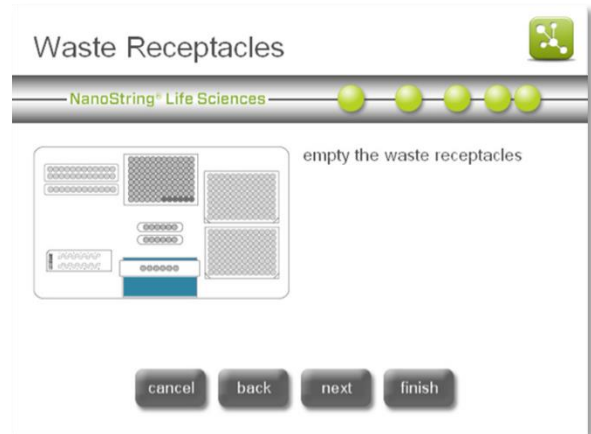

Figure 18: The 'Waste Receptacles' screen.
- The 'Waste Receptacles' screen will appear (**Figure 18**). Remove the liquid waste container from the combined receptacle and dispose of the liquid appropriately. See the previous section on Waste Removal for further information.